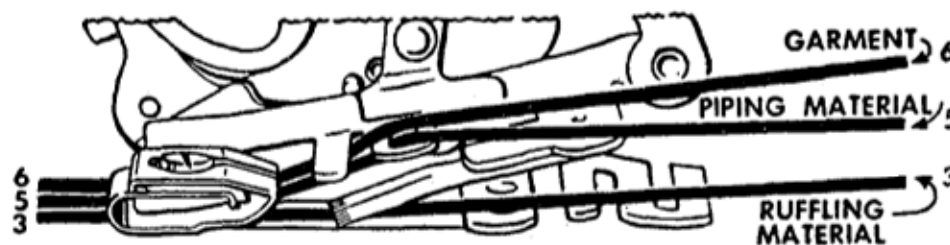

Fig. 70. Correct Positions for Materials
1. Insert material to be ruffled between two blue blades **Line 3, Fig. 70.**
2. Piping material is usually cut on the bias and it should be about $\frac{1}{4}$ inch wide when folded in center. Place piping material in ruffler, following **Line 5, Fig. 70** with folded edge of piping to the right.
and insert it in ruffler, following **Line 6, Fig. 70**.